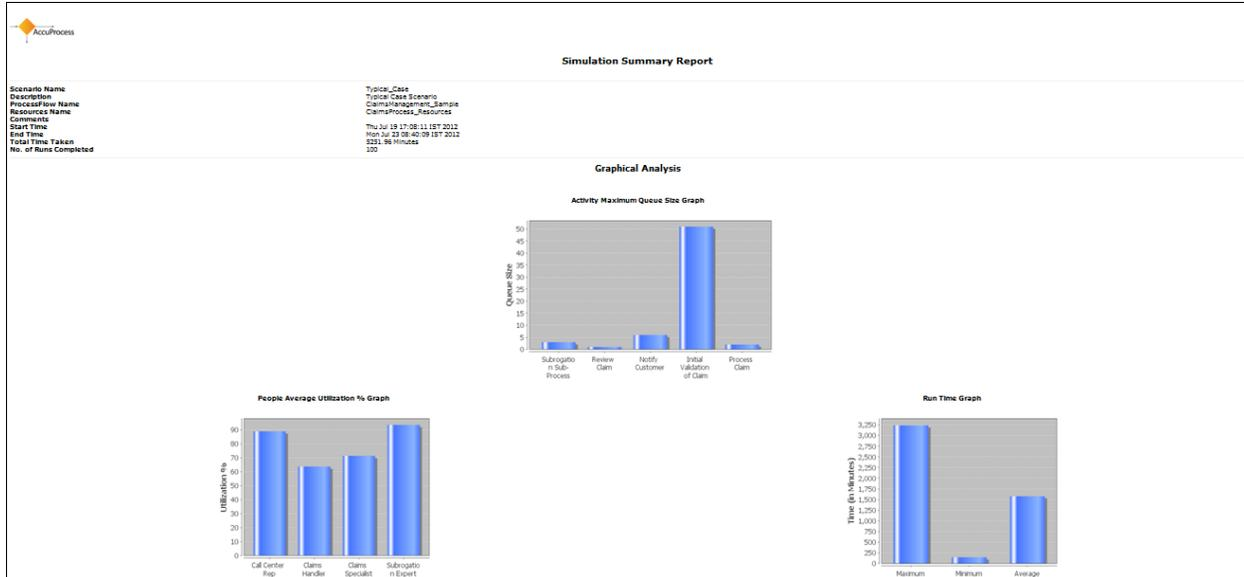

Figure 19: Simulation Summary Report (Graphical Analysis)
- To generate the simulation report, click **Generate Simulation Summary Report** (  ) button from the tool bar. The report is generated in the HTML form and shown in your browser. Figure 19 shows the *Simulation Summary* and *Graphical Analysis* report.